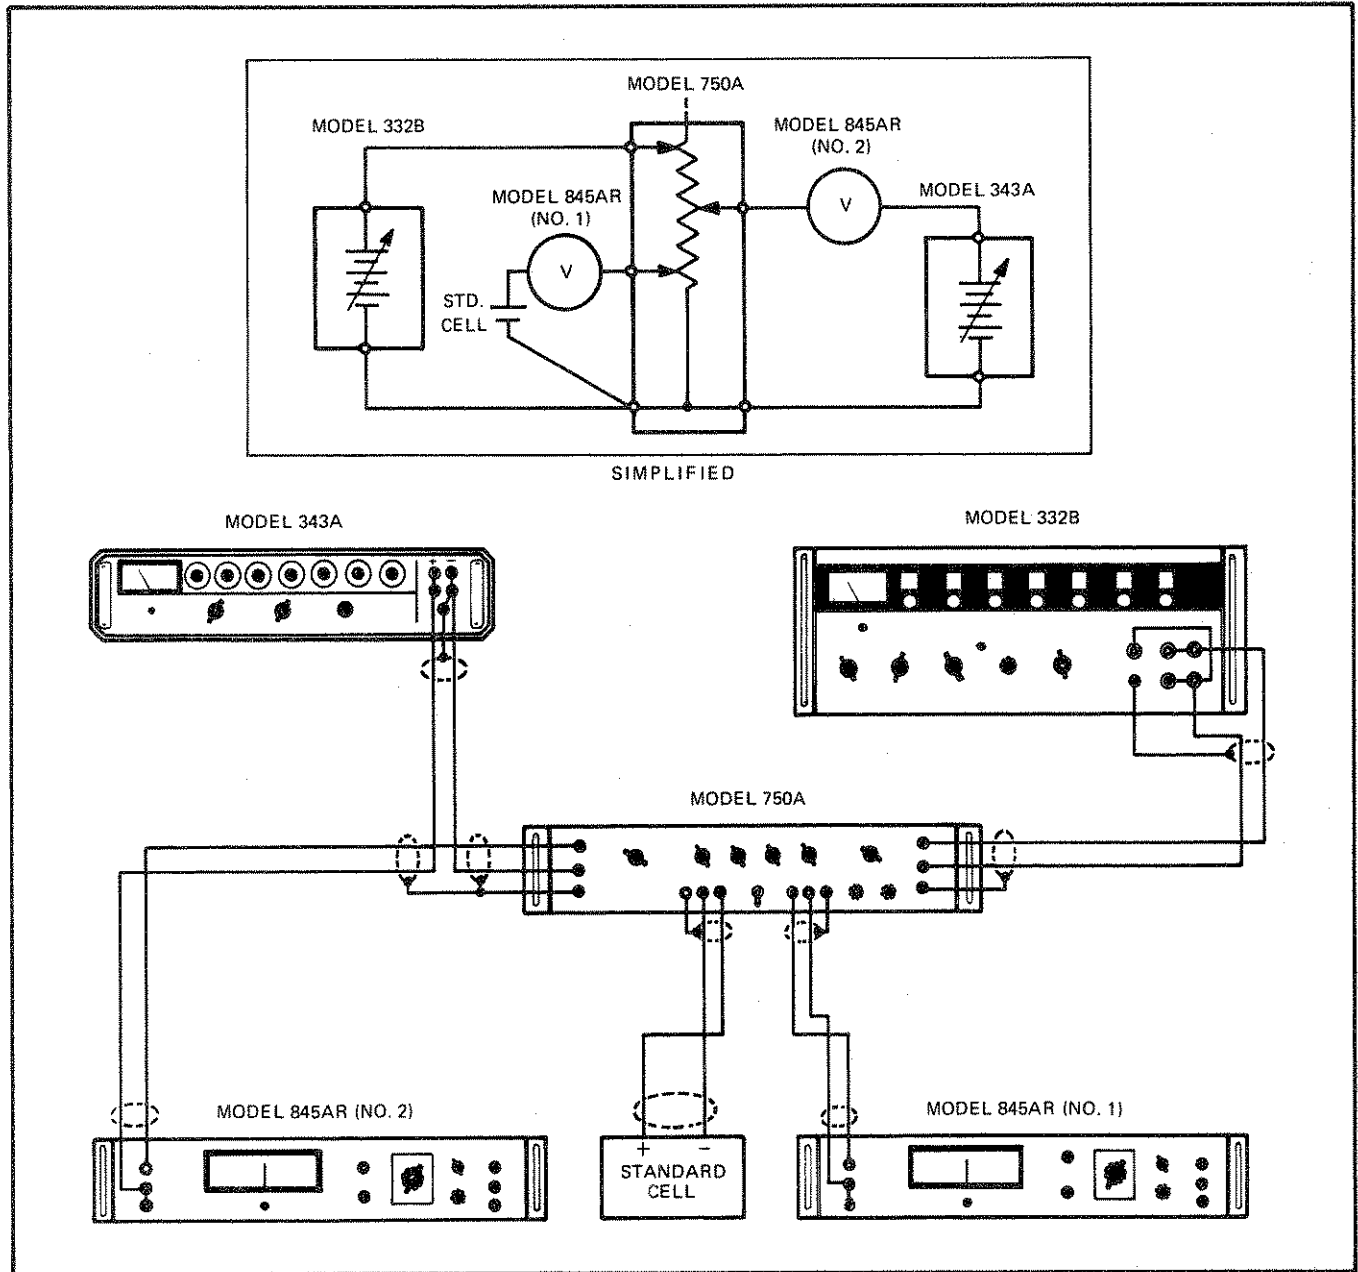

Figure 4-16. RANGE ADJUSTMENT AND CALIBRATION VERIFICATION TEST SETUP
a. Connect equipment as shown in Figure 4-16.
- a. Leave equipment connected as shown in Figure 4-16.